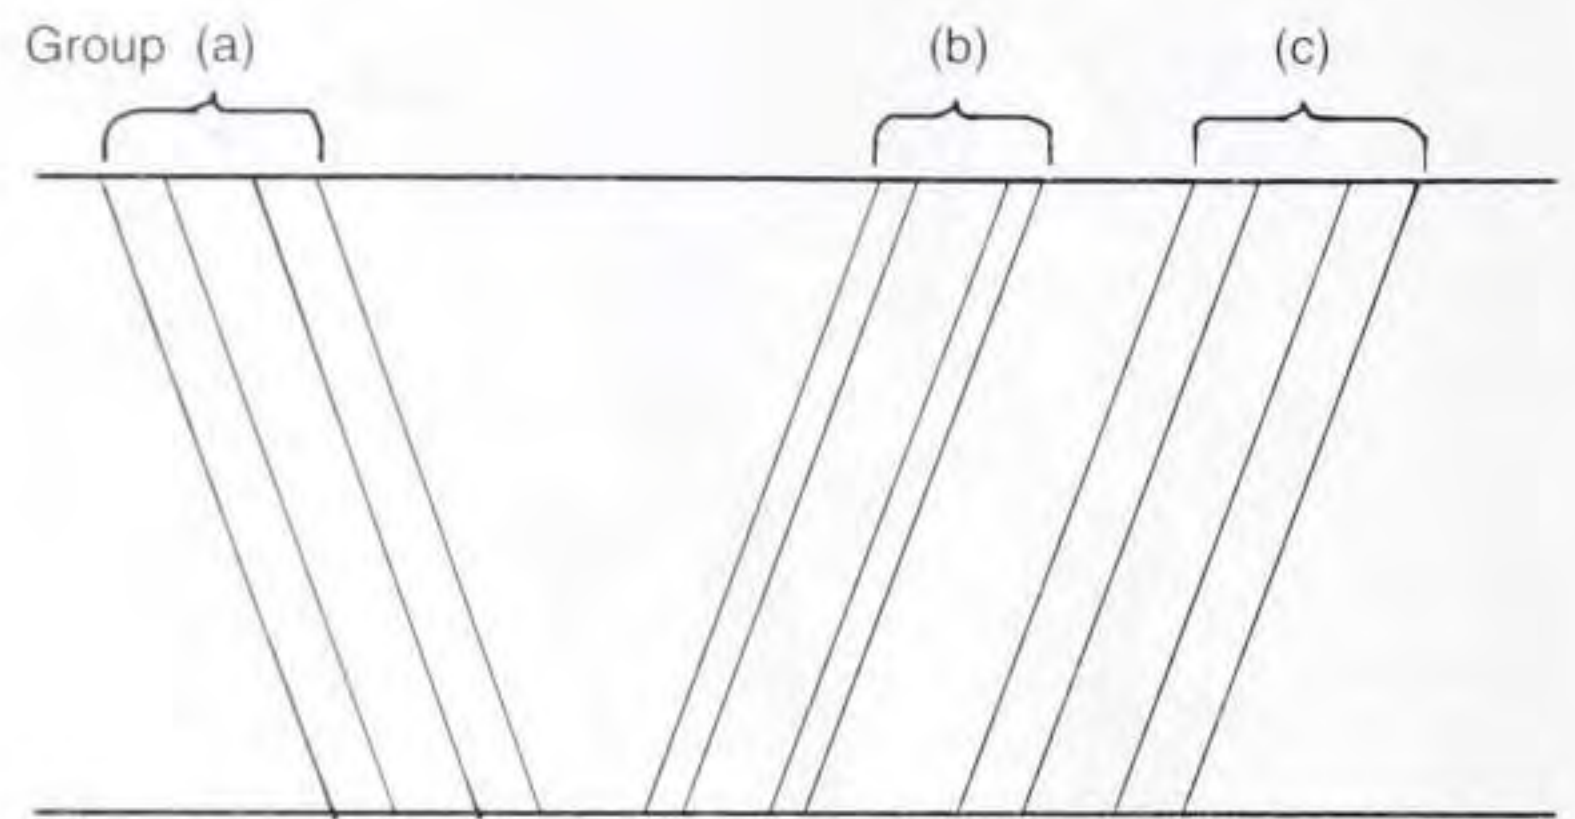

Fig 5.42 Layout for the angled cuts: wide trenches tilting left and right, and a narrow trench tilting right.
- 2 Refer to Fig 5.42. Draw three groups of parallel, paired oblique lines at an angle of about 70° to the horizontal, as follows: